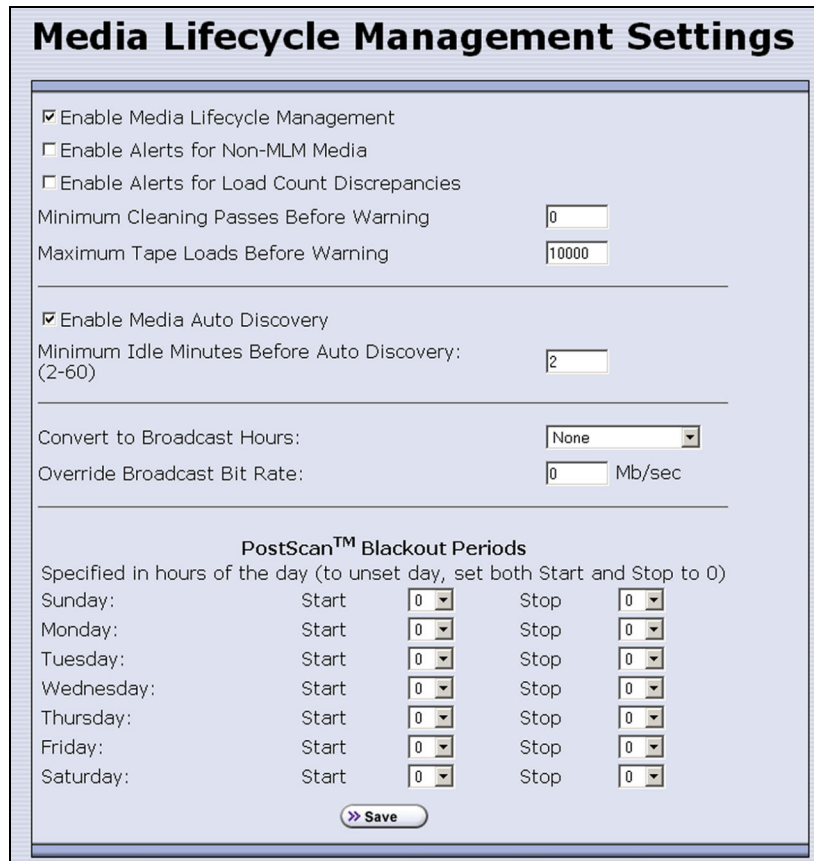

Figure 179 Use the Media Lifecycle Management Settings screen to enable MLM and configure the global configuration settings.
2. From the toolbar menu, select **Configuration** → **Media Lifecycle Management**. The Media Lifecycle Management Settings screen displays (see Figure 179 on page 300).